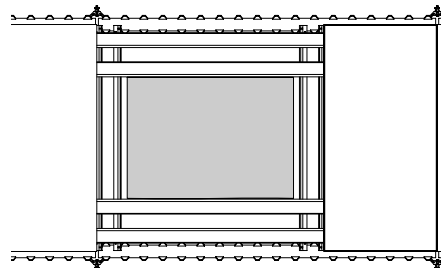

Fig. A5.05
- horizontally, transverse to the suspended Edge Beam SRT. (Fig. A5.05 + A5.06)